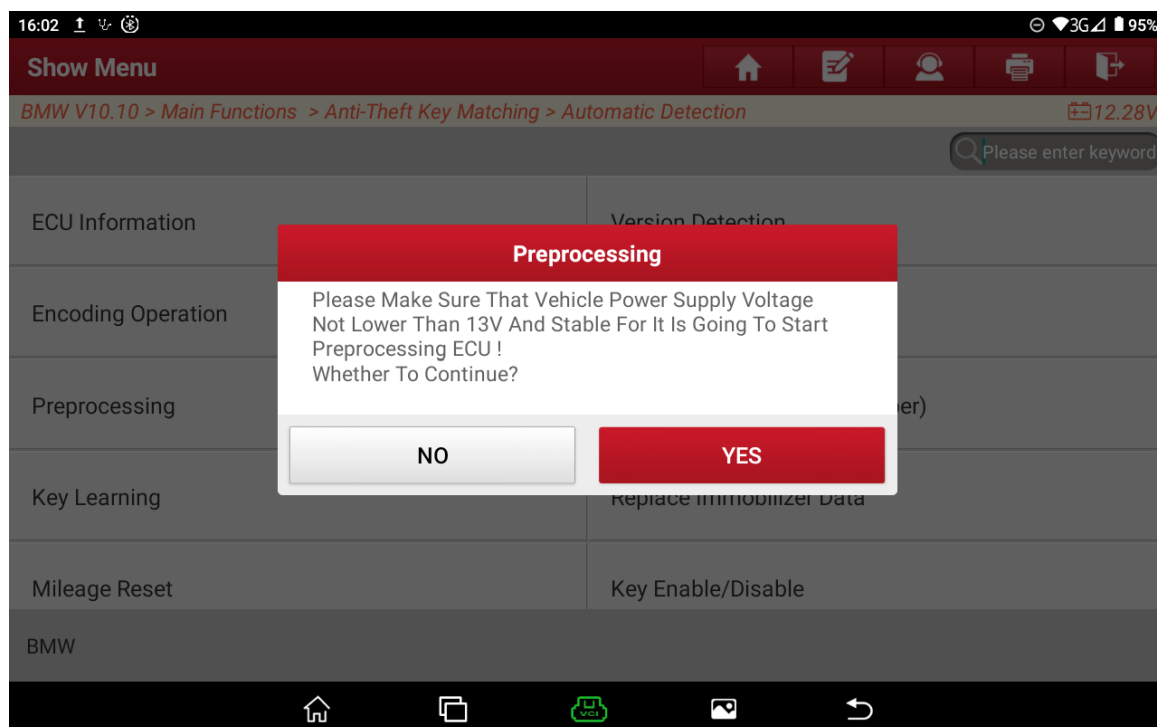

Figure 25
25. Before preprocessing, ensure that the power supply voltage is stable and select “Yes”, as shown in Figure 25.